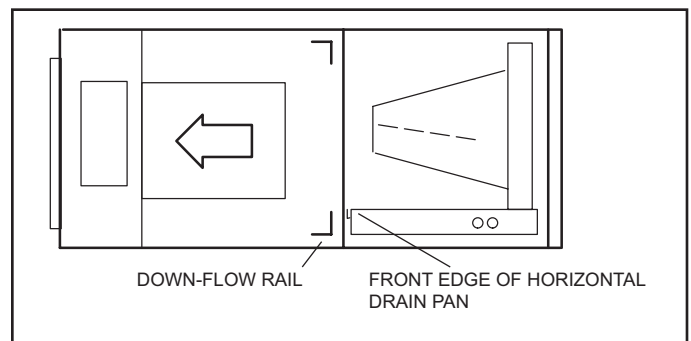

FIGURE 15. Left-Hand Discharge Configuration
- 9 - Install the horizontal shield (-060 model) on the front edge of the horizontal drain pan as illustrated in figure 15.